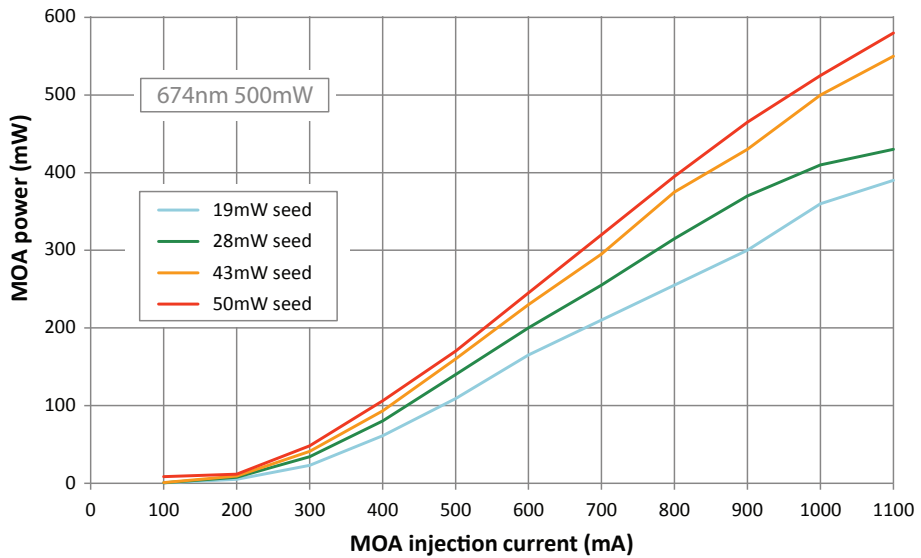

Figure 3.4: TA output power, measured pre-isolator, against diode current, for several different injection seed laser powers.
- Measure the PI curve (see figure 3.4). Make sure that the output power is comparable to the factory test results. Do not increase the TA current significantly if the threshold current (i.e. the current at which the TA output power is more than a few milliwatts) and the slope are not comparable to the factory test results. Further optimisation of the seed alignment and focus may be necessary.